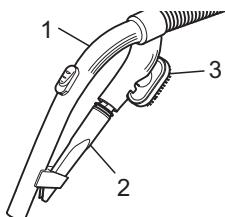

Fig. 5
■ The crevice nozzle and the 2-in-1 combi-nozzle are included as **accessories** in the scope of delivery. They can be secured to the accessories mount (Fig. 5/1).
- Crevice nozzle (Fig. 5/2)
- 2-in-1 combi-nozzle (Fig. 5/3) to be used as: